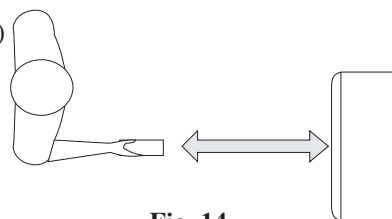

Fig. 14
- Point the remote control towards the front of the air conditioner. (see Fig 14)